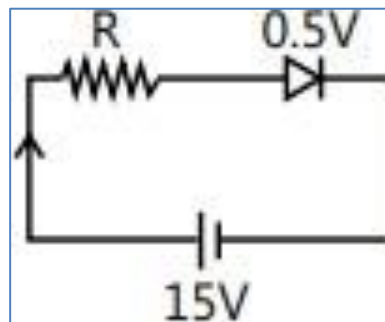

Fig 4 Diode Circuit
1.3 The diode used in the circuit shown in the fig.4 has a constant voltage drop of 0.5 V at all current and a maximum power rating of 100 milliwatts. What should be the value of the resistor R, connected in series with the diode for obtaining maximum current?